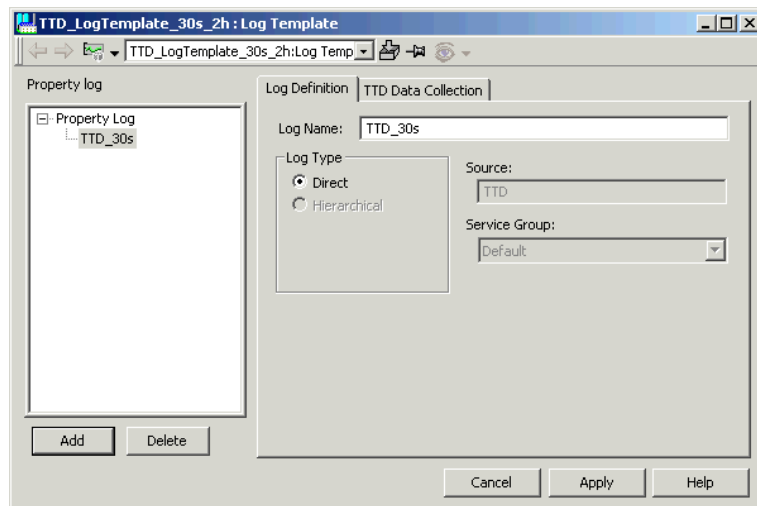

Figure 47. Creating TTD Log Templates
6. Enter the name of the new TTD log (TTD\_30s in the example above). Name the logs according to the type of log (TTD in this case), and the storage interval (30s). See Figure 47.